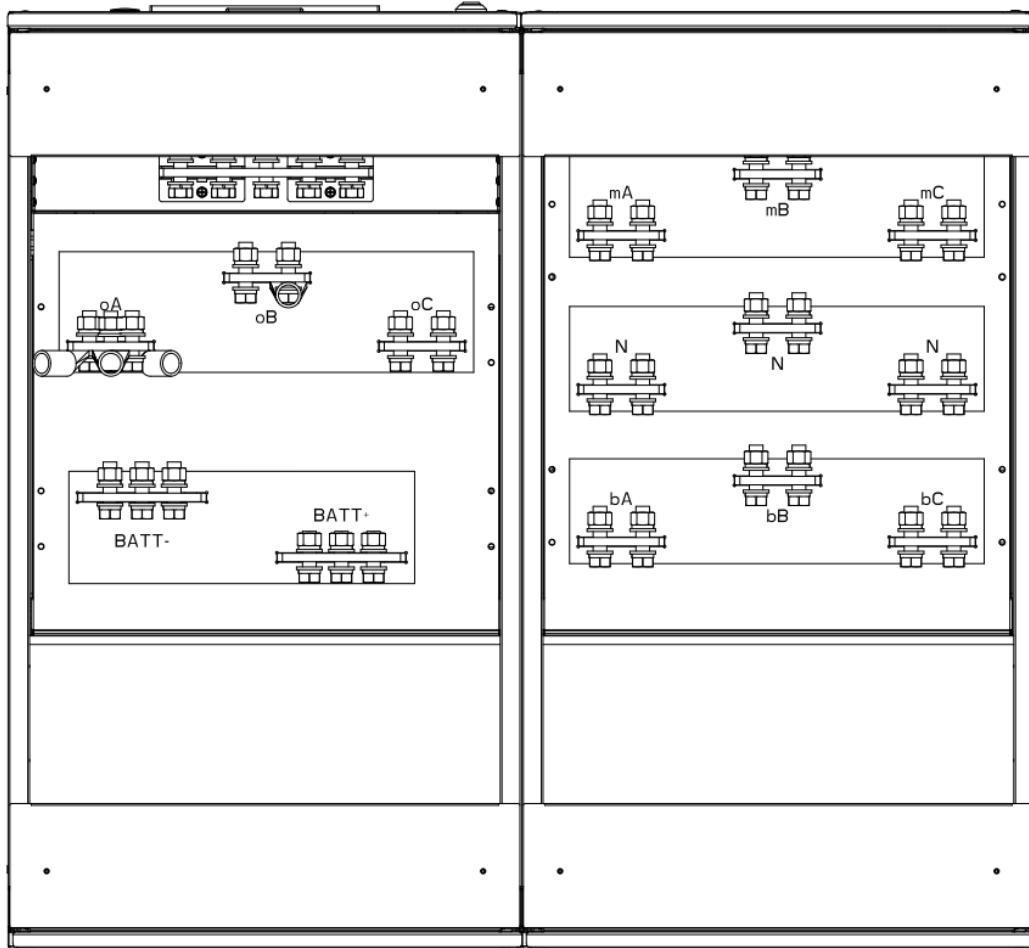

Figure 3-43 Terminal Layout Diagram
Step 2: Remove the protective cover on the top of the cabinet. The input and output terminals, battery terminals, and grounding terminals are visible. The layout of the terminals is shown in Figure 3-43 (Terminal Layout Diagram);
Step 3: Connect the input ground wire to the input grounding terminal. Note that the ground wire connection must comply with local and national regulations;Step 4: According to the terminal layout in Figure 3-43, connect the AC input cable to the UPS input terminals (mA, mB, mC); connect the output load cable to the UPS output terminals (oA, oB, oC);Step 5: Connect the battery cable to the UPS battery terminals (BATT±);Step 6: After checking that the wiring is correct, complete the connection.